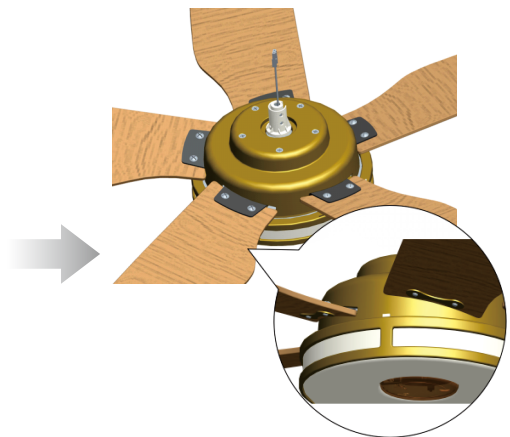

Fig 1.2
1.2 Make sure each blade matches the corresponding place on the motor hub as shown in Fig1.2.